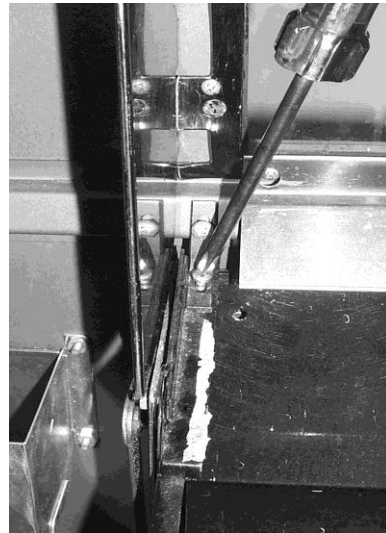

Figure 2.
3. Locate the two L-shaped brackets on both sides of the bin on the door. Unscrew the bottom screw completely with Philips screw driver. Next, loosen the top screw slightly to allow the bracket to move around freely. See Figure 2.